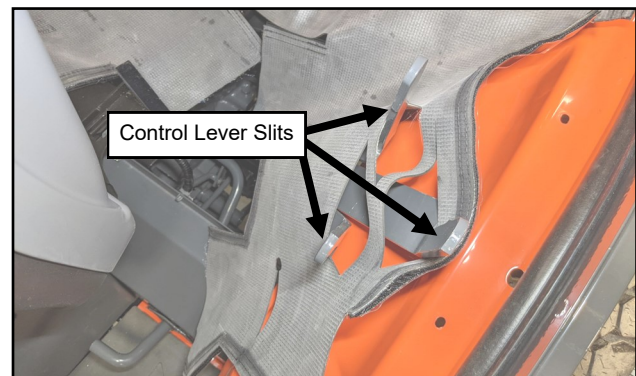

Fig. 19.3 (Set Filler In Place)
- 19.3 Tip the seat forward and set the filler in place starting with the slits for the control levers on the left side. See Figure 19.3. Do not stick Velcro yet.